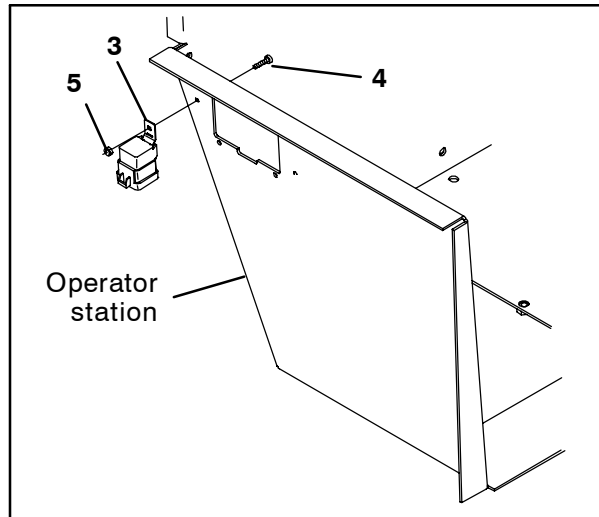

FIG. 4 - Gas / LPG / Diesel Machines Only
- Gas / LPG / Diesel Machines Only:** If there is no relay located next to the fuse box use a M5 hex screw (4) and a M5 hex nut (5) to install the 12 VDC relay (3) onto the operator station. Refer to Fig. 4.